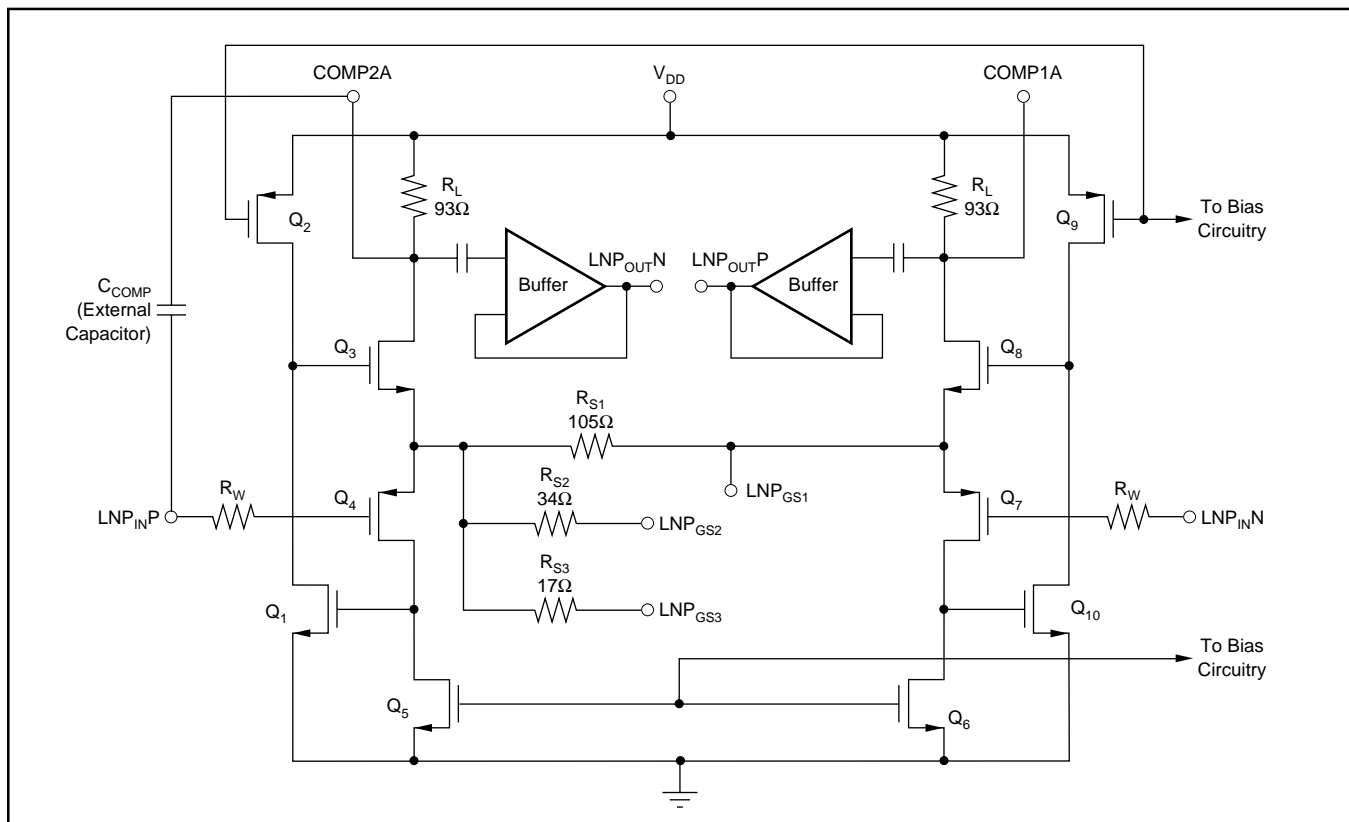
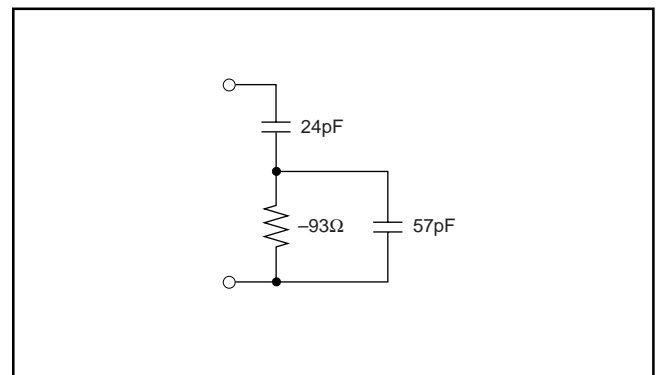

FIGURE 4. Schematic of the Low Noise Preamplifier (LNP).
FIGURE 11. VCA2616 Input Impedance.
The LNP is designed to achieve a low-noise figure, especially when employing active termination. Figure 4 is a simplified schematic of the LNP, illustrating the differential input and output capability. The input stage employs low resistance local feedback to achieve stable low noise, low distortion performance with very high input impedance. Normally, low noise circuits exhibit high power consumption due to the large bias currents required in both input and output stages. The LNP uses a patented technique that combines the input and output stages such that they share the same bias current. Transistors Q₄ and Q₅ amplify the signal at the gate-source input of Q₄, the +IN side of the LNP. The signal is further amplified by the Q₁ and Q₂ stage, and then by the final Q₃ and R_L gain stage, which uses the same bias current as the input devices Q₄ and Q₅. Devices Q₆ through Q₁₀ play the same role for signals on the –IN side.
It is also possible to create other gain settings by connecting an external resistor between LNPG_{S1} on one side, and LNPG_{S2} and/or LNPG_{S3} on the other. In that case, the internal resistor values (see Figure 4) should be combined with the external resistor to calculate the effective value of R_S for use in Equation (1). The resulting expression for external resistor value is given in Equation (2):
where R_{EXT} is the externally selected resistor value needed to achieve the desired gain setting, R_{S1} is the fixed parallel resistor in Figure 4, and R_{FIX} is the effective fixed value of the remaining internal resistors: R_{S2} , R_{S3} , or $(R_{S2} \parallel R_{S3})$, depending on the pin connections.
For greatest flexibility and lowest noise, the user may wish to shape the frequency response of the LNP. The COMP1 and COMP2 pins for each channel (pins 10 and 11 for channel A, pins 26 and 27 for channel B) correspond to the drains of Q₃ and Q₈, see Figure 4. A capacitor placed between these pins will create a single-pole low-pass response, in which the effective “R” of the “RC” time constant is approximately 186Ω.
The VCA2612 and the VCA2616 are very similar in performance in all respects, except in the area of noise performance. See Figure 4 for a schematic of the LNP. This brings the input noise of the VCA2616 down to 1.0nV/√Hz compared to VCA2612's 1.25nV/√Hz. The input impedance at the gate of either Q₄ or Q₇ can be approximated by the network shown in Figure 11. The resistive component shown in Figure 11 is negative, which gives rise to unstable behavior when the signal source resistance has both inductive and capacitive elements. It should be noted that this negative resistance is not a physical resistor, but an equivalent resistance that is a function of the devices shown in Figure 4. Normally, when an inductor and capacitor are placed in series or parallel, there is a positive resistance in the loop that prevents unstable behavior.